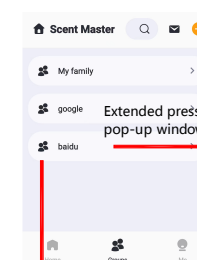

Figure 21
- (1). Open [online Mode] select [Groups] interface, and click [+] to add a level 1 group (Figure 21).
- (2). Long press group list pop-up window, Sticky on top / Adding/remove devices / Group location / Rename / Settings of group / Group sharing / Group delete (Figure 21 / 22).
- (4). Click the grouping list to enter the secondary grouping, showing the equipment and secondary grouping associated with the primary grouping. Click [+] to add the secondary grouping Level grouping (Figure 21 / 24).